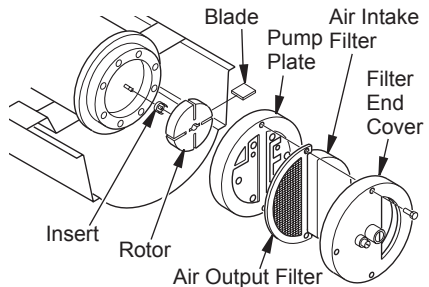

Figure 28 - Rotor Location, 40/55/70 Models
2. Remove filter end cover screws using 5/16" nut driver (see Figure 28 or 29).
6. Remove rotor, insert, and blades (see Figure 28 or 29).